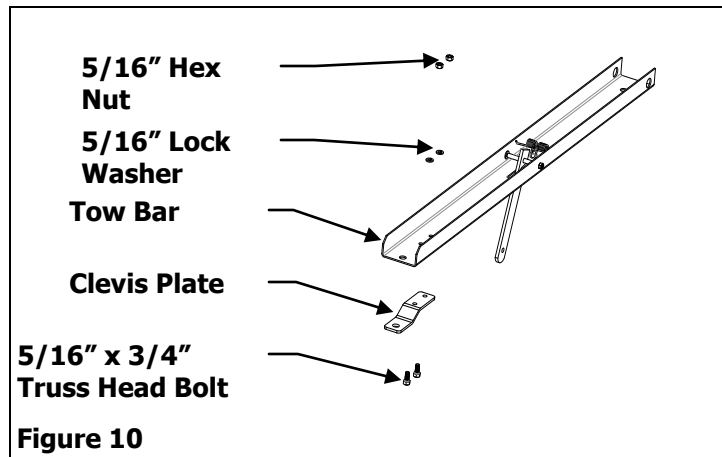

Figure 10
10. Insert 5/16" x 3/4" Truss Head Bolt into hole of Clevis Plate, then into hole of Tow Bar. Attach a 5/16" Lock Washer and secure with a 5/16" Hex Head Nut. Repeat process on second hole in Clevis Plate. See Figure 10.